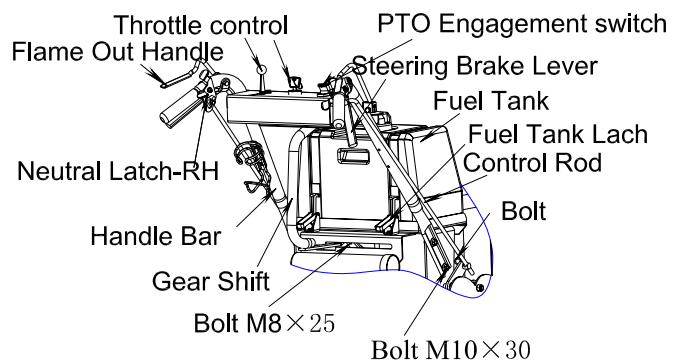

FIG5
- Attach the handle with four Hex Hd Bolts, be sure that Locknut M10 on each side as show in FIG5
- Each of the control rods must be connected. Follow the instructions to properly adjust each of the controls as show in FIG5.